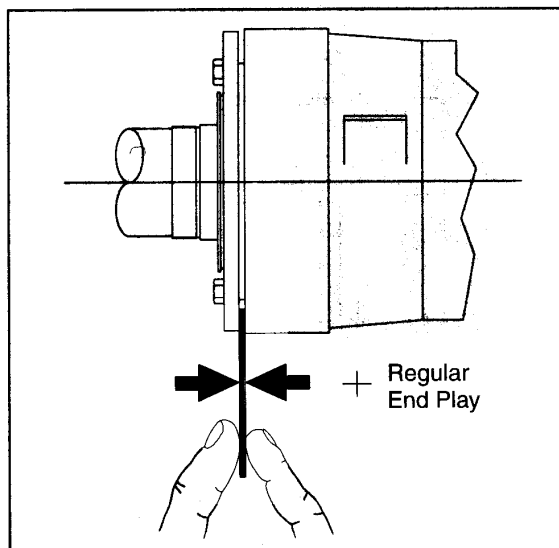

Figure 2-4 • Gap Measurement
1. Measure the gap between end cover flange and housing face with feeler gauges as shown in Figure 2-4. Providing screws have been tightened evenly, this measurement method is usually satisfactory.
3. Select SHIMS (025) of a total thickness equal to the gap measurement (obtained above) plus regular end play as shown in Table 2-2.